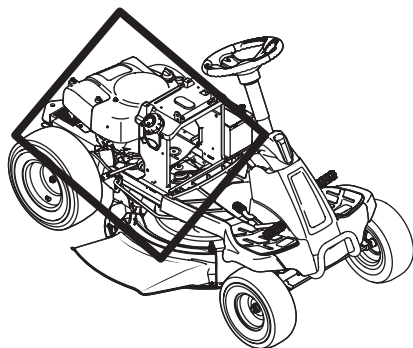

Figure 24
- Clean under the hood. Exhaust manifold, around fuses, all wiring and harnesses, muffler pipe, muffler shield, engine intake screens and cooling fins, etc (Figure 24).